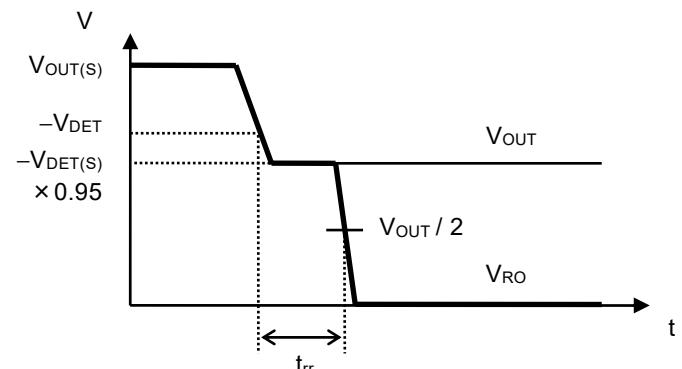

Figure 5 Reset Reaction Time
*4. The time from when V_{OUT} falls below $-V_{DET}$ to when the RO pin output inverts (Refer to Figure 5).